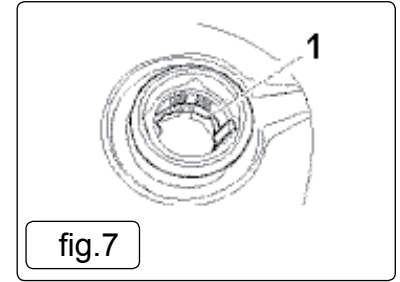

fig.7
- 4.7.6. Pour in fuel up to the red line fig.7. (1)